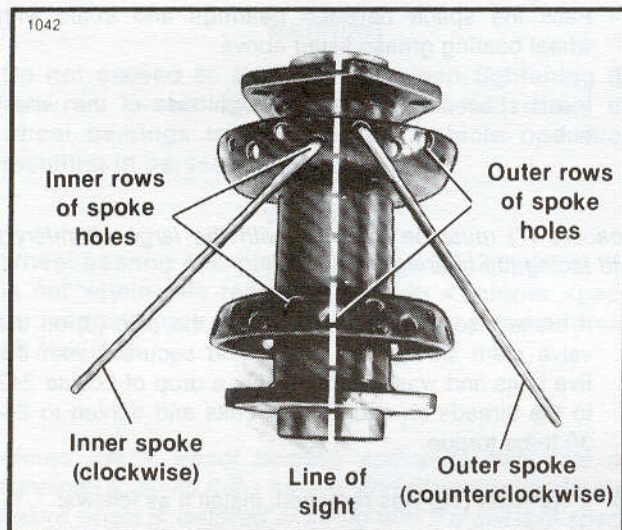

Figure 2-16. Hub
1. See Figure 2-16. Pick any outside spoke hole and sight straight across the hub. The first spoke hole to the right of the centerline is an outside spoke hole. With the wheel assembled, all inner spokes on opposite sides of the wheel cross and all outer spokes on opposite sides of the wheel cross. Replace any bent spokes.
3. See Figure 2-16. Insert ten spokes into the upper flange inner spoke holes. Swing the loose ends clockwise as far as they will go.